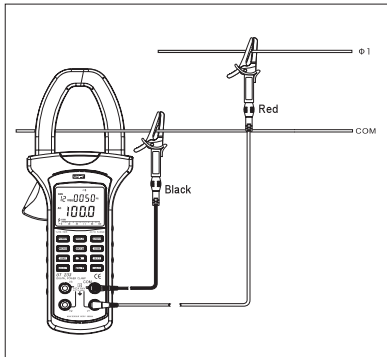

Figure 6
- *When measuring single phase 2 wires, connect the Meter as figure 6*